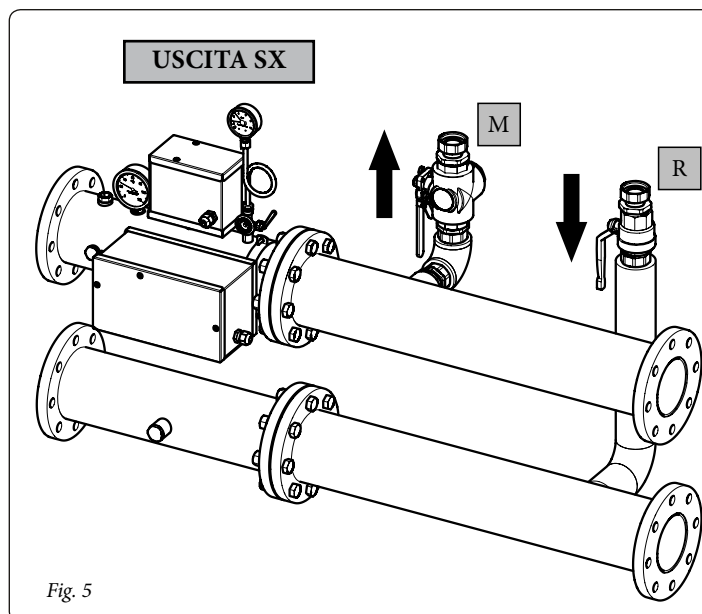

Fig. 5
N.B.: If assembling the INAIL safety devices kit on the left side, perform the installation as shown in figure 5.